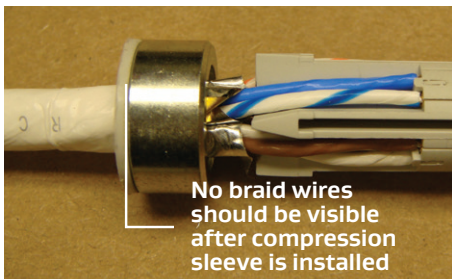

Figure 76: Sliding the compression sleeve
24. Slide the compression sleeve back down over the braid wire and support sleeve. You should not see any braid wires after the compression sleeve is installed (Figure 76).